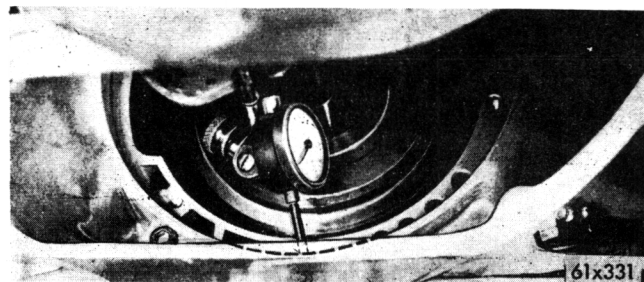

Fig. 2 – Checking transmission case (front pump bore) runout
(13) Position dial indicator plunger to the engine transmission mounting face and rotate the engine crankshaft to read any runout. (Runout should not exceed .010 inch T.L.R.).
(14) Bolt transmission case to engine, being careful not to strike indicator, when raising transmission into place. Tighten bolts to 25-30 lbs. ft. torque, adding shims, where required, between mounting surfaces to correct excess runout.
(15) Position dial plunger against bore diameter which pilots front pump assembly (see Fig. 2). Make sure plunger does not rest on chamfered edge of bore. To adjust dial and plunger, reach into case from front, below engine oil pan. Adjust dial and plunger to that plunger can travel in each direction.